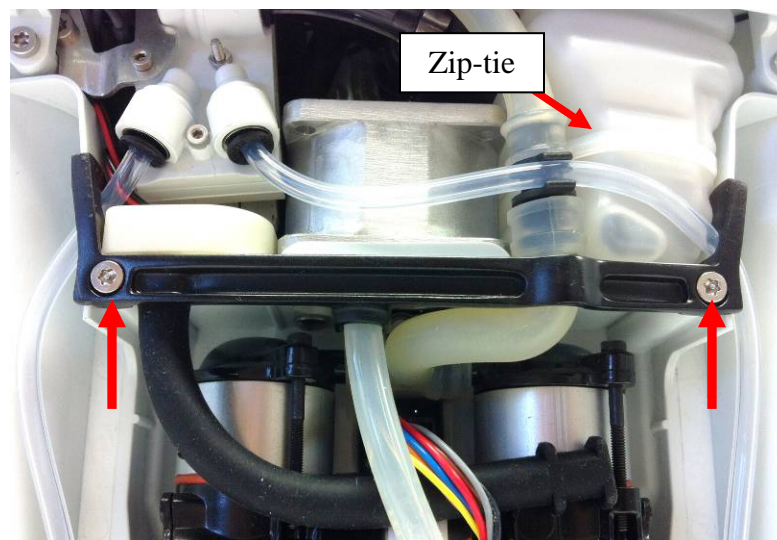

Figure 9: Tube bracket screws
1. Cut the zip-tie securing the accumulator to the chassis (Figure 9).
2. Disconnect the tube bracket from the chassis by unscrewing the two screws and setting aside (Figure 9). This frees the tubes surrounding the accumulator and makes more room for removal.
4. Make sure all tubes are properly oriented before reinstalling the tube bracket and the two screws that attach it to the chassis (Figure 9). Tighten screws to 6 in-lbs.